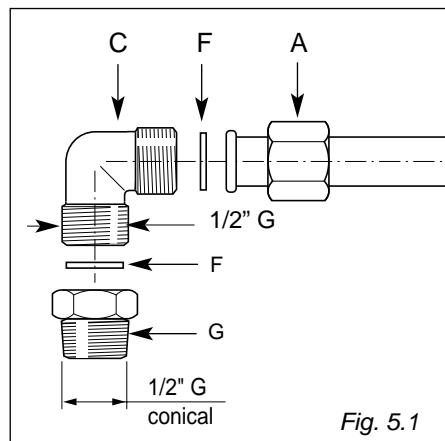

Fig. 5.1
The fitting is made up of: (fig. 5.1):
- ✓ The gaskets "F" (Fig. 5.1) are the parts which guarantee the seal of the union-ramp connection. Replace them whenever they are even slightly deformed or imperfect.